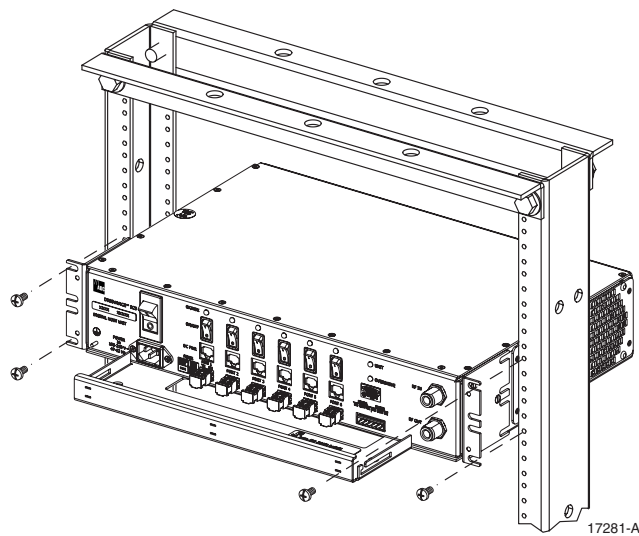

Figure 15. DHU Rack Mount Installation
4. Position the DHU in the designated mounting space in the rack (per system design) as shown in Figure 15.